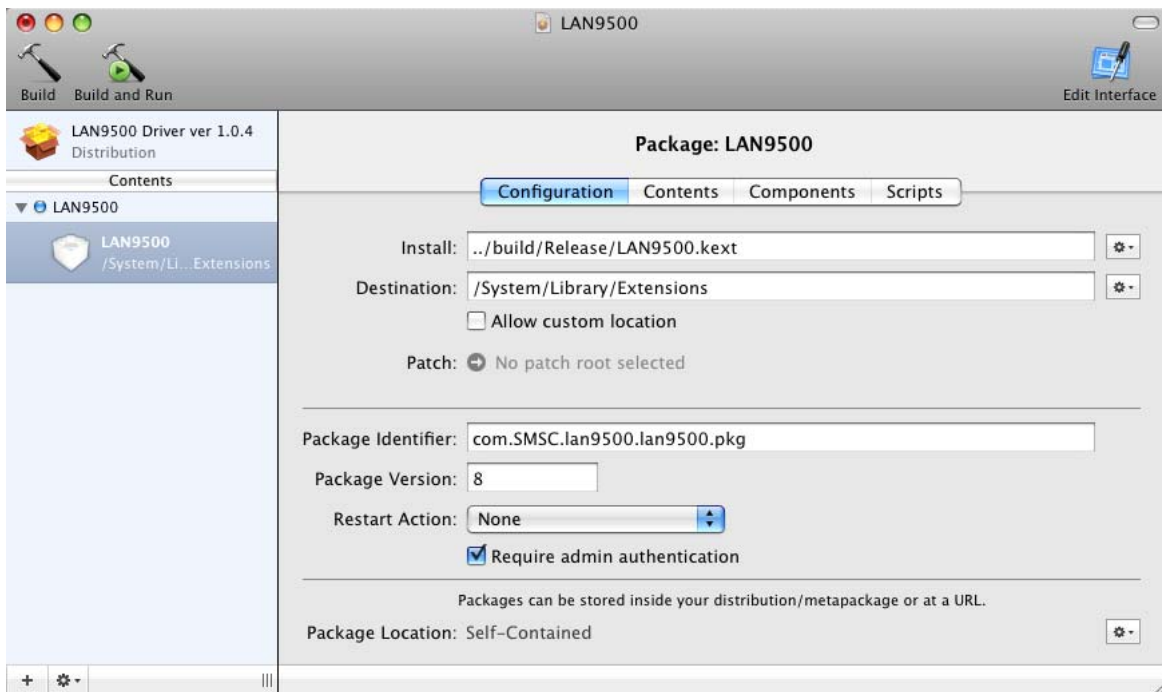

Figure 7.9 Configuration Information
7. Complete the information under the “Configuration” heading as suggested in Figure 7.9, modifying as necessary for the user’s application.